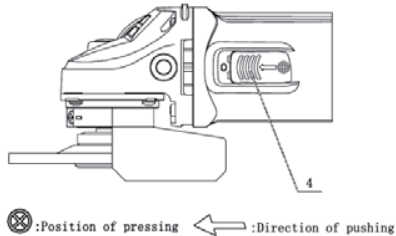

Fig. 6
- 2) Start the tool by pressing the button of on/off switch(4) down slightly then pushing forward on the button of on/off switch. (See fig.6)